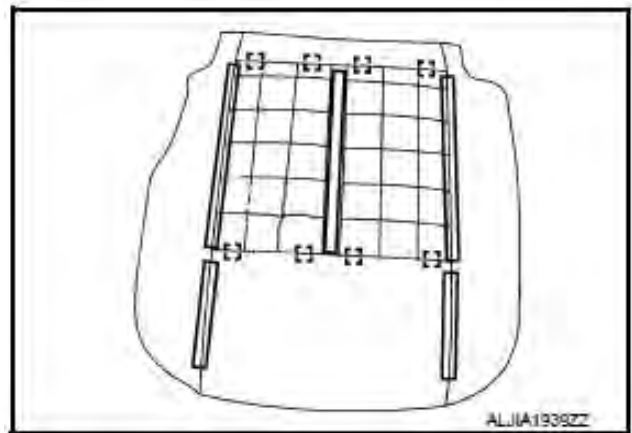

Figure 31
- Seat trim is secured to seat cushion using 8 hog rings and 5 Velcro strips (see Figures 31, 32 and 33).